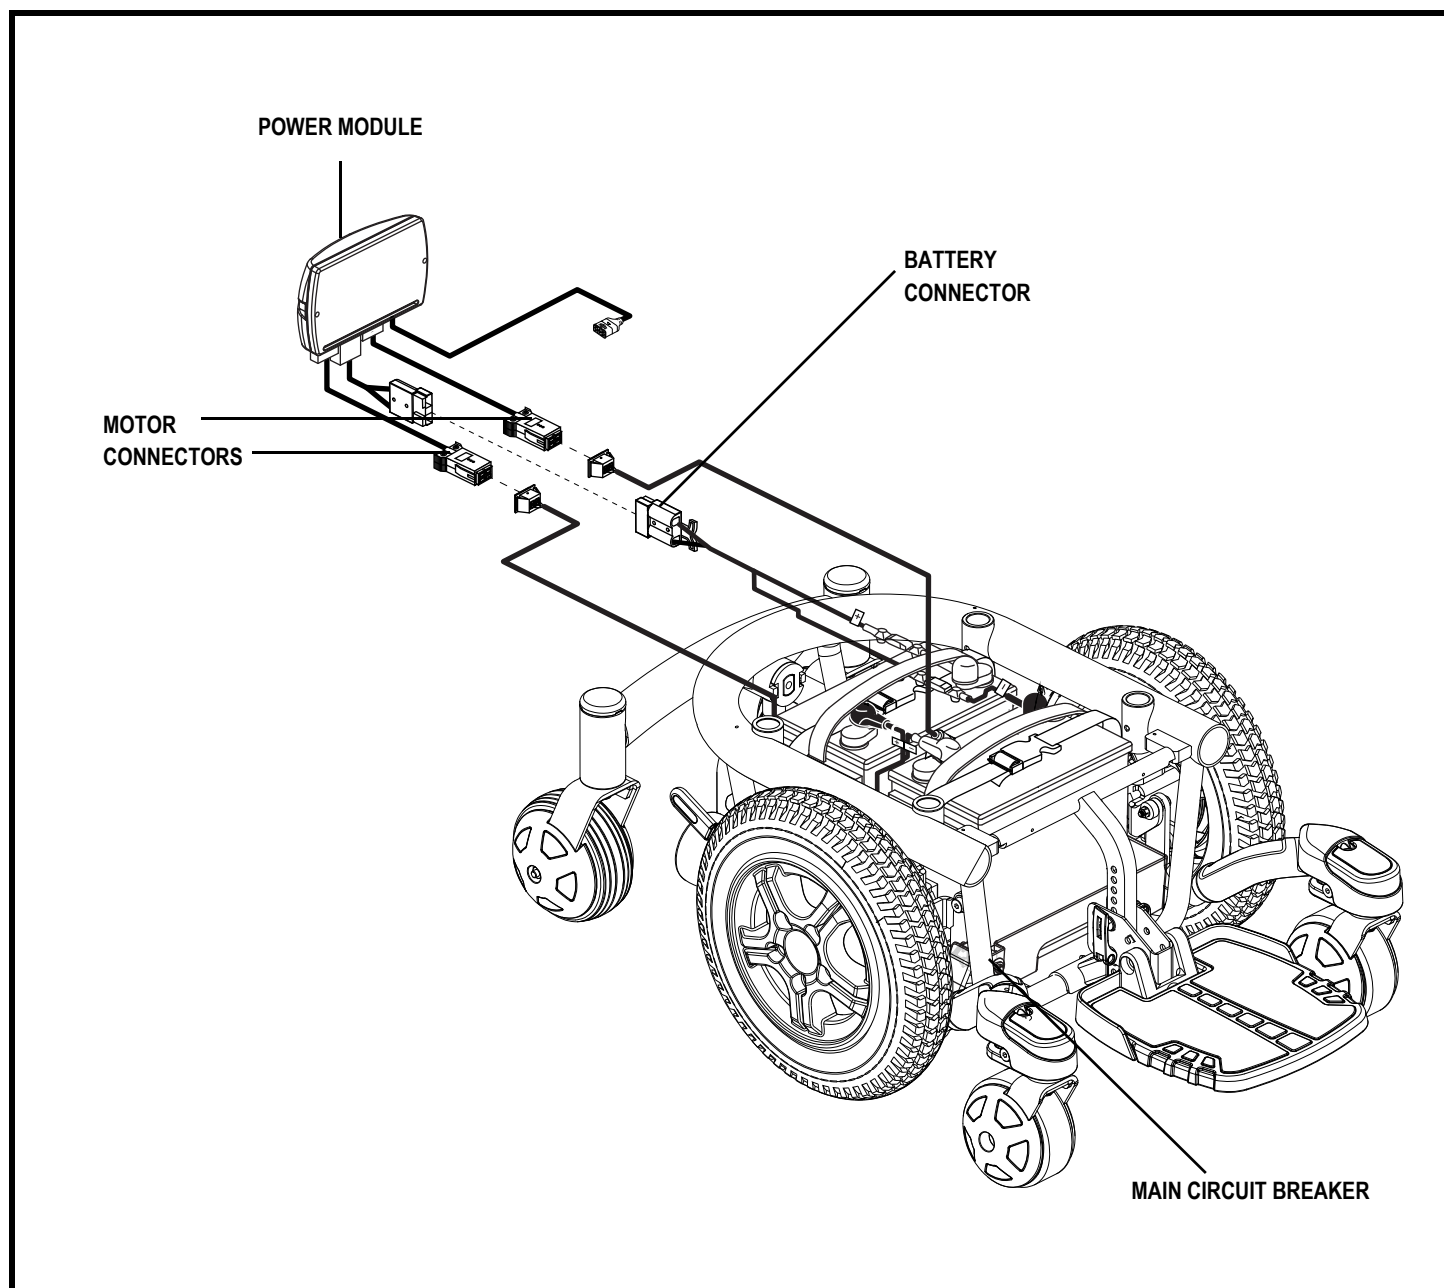

Figure 7. Electrical Components
The electrical components are located inside the power base. The main circuit breaker is located on the front of the battery tray. The controller connector(s) are located inside the power base. See figure 7.
8. Plug the controller connector(s) into the power base. See figure 7.
3. Disconnect the controller connector(s) from the power base. See figure 7.